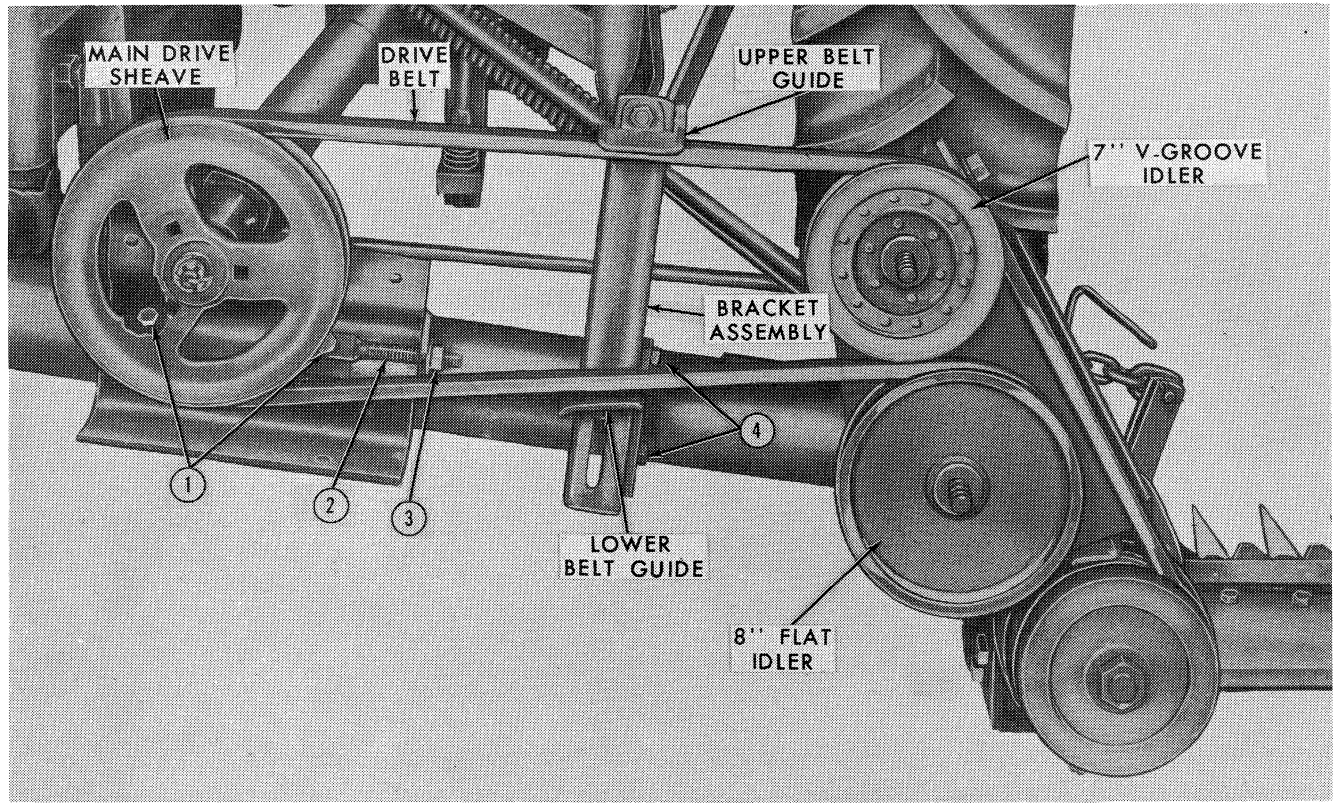

Figure 36
20. Install the main drive sheave on the splined drive shaft and secure with the 5/8" flat washer, slotted nut, and cotter pin, as shown in Figure 36.
21. Install the 7" V-groove idler, Figure 36, on its mounting bracket as follows:
c. Place the idler on the bolt, as shown in Figure 36, so that the grease fitting is to the front of the mower.
c. Place the idler on the bolt, as shown in Figure 36, so the grease fitting is to the front of the mower.
23. Install the drive belt on the sheaves, as shown in Figure 36.
25. Adjust the belt tension by loosening the main drive sheave bracket attaching bolts (1), and turning the nut (3), Figure 36, on the drawbolt (2). When properly adjusted, the belt should feel